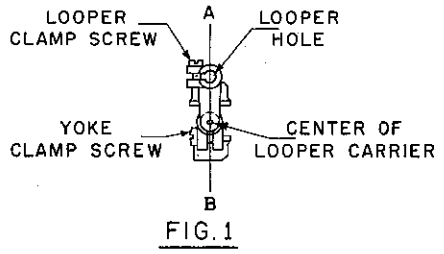
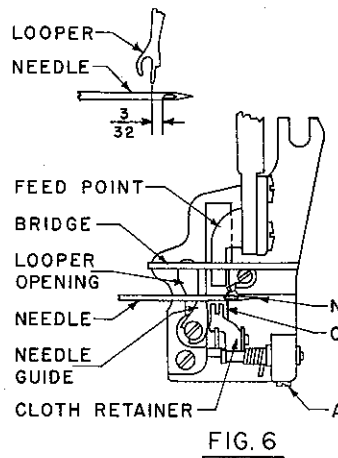
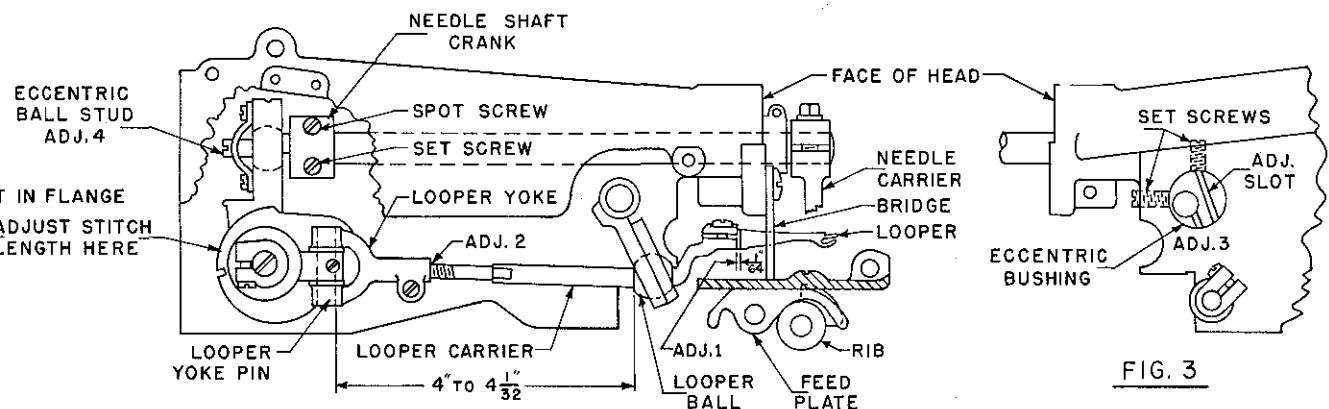
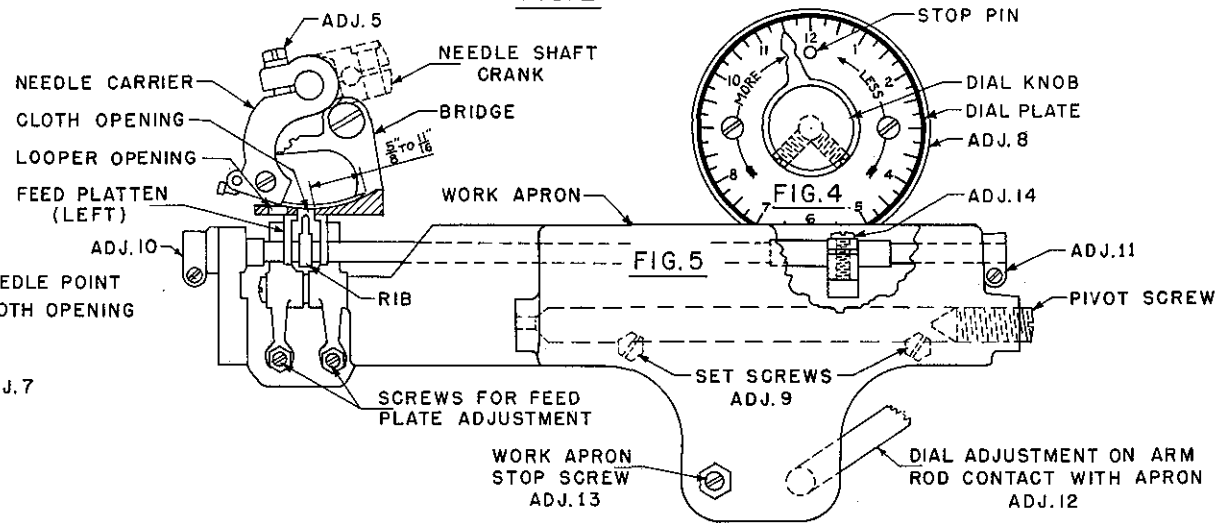

FIG. 1
FIG. 6
FIG. 2
FIG. 5
31. Continue to rotate hand wheel until the needle is at the end of needle stroke on the right hand side, see figure 5; at this position the point of the needle must be from $\frac{5}{8}$ " to $\frac{11}{16}$ " from the right hand side of the cloth opening on the presser foot. This setting is made by loosening the clamp screw holding the needle ball in the needle shaft crank, and turning the eccentric ball until the point of the needle is set correctly. See figures 2 and 5, adjustment 4 and 5.
32. The needle must be in contact with the needle guide when the needle point is from $\frac{1}{64}$ " to $\frac{1}{32}$ " from the left hand side of the cloth opening in the presser foot, Figure 6.
33. Adjust work apron so that left hand feed platten is flush with left hand side of cloth opening in presser foot. The adjustment is made by loosening two hexagon set screws in up right arm of the machine base, under the work apron holding the work apron shaft; slide the apron in correct position, and tighten the two set screws, Adjustment 9, Figure 5.
34. Set needle over highest part of rib, and adjust work apron to raise needle from the needle guide $1/64''$. The adjustment is made with the work apron stop screw. Adjustment 13, Figure 5. When set tighten lock nut.
38. Set feed platten, figure 5, so that they will depress $1/32''$ when in contact with the bottom of presser foot, after adjustment of foot and apron has been made. The setting is made by adjusting the feed platten carrier adjusting screws, and tighten lock nuts.
39. To set depth of feed, figure 6, adjustment 5, first turn hand wheel until needle point when approaching from the left is flush with left hand side of cloth opening in presser foot. Loosen the two feed clamp screws, and set feed so that a $.003''$ shim or newspaper will just be clamped between the top of feed plate, and the bottom of the presser foot. The feed points must be parallel with bottom of foot, tighten the feed clamp screws, and check clearance between feed and looper at all positions.
44. The Rib must be set to be $3/32''$ from the right hand side of the cloth opening in the presser foot. The adjustment is made by loosening the clamp screws of the Collars on each end of the rib shaft, see adjustment 10 and 11, figure 5. Set the rib in center of the cloth opening and tighten clamp screws. There must be no end play in the rib shaft.
46; Rotate hand wheel in clockwise direction until rib is at extreme end of its stroke with nose of rib under the needle. Loosen clamp screw in crank, adjustment 14, figure 5, and set rib by hand so that point of needle is $3/32''$ back from nose of rib, and tighten clamp screw.
48. The looper carrier and looper yoke are set before assembling these parts into the machine. Now, the looper ball is positively located on the shaft of the looper carrier by a spot screw. The looper carrier is assembled to the looper yoke, so that the distance from the edge of the looper yoke pin nearest the looper ball, to the side of the looper ball nearest the looper yoke will be 4 to $4-1/32$ (See Adjusting Chart, Figure 1, Adjustment 2.) The looper hole must be in line with center of looper carrier as shown in Figure 1.
49. The looper is mounted in the looper carrier assembly; allow $1/64''$ space between looper shoulder and end of looper carrier. (See Figure 2, Adjustment 1.) The Correct assembling of this unit must be understood in case for any reason it is necessary to remove or replace this assembly.
55. Before setting the looper, the looper carrier assembly must be in accordance with instructions for Figure 1, and Figure 2, and the needle setting must be as described in adjustments 4 and 5, Figures 2 and 5.
63. Loosen the looper yoke clamp screw, see Adjustment 2, Figure 2, and roll the looper until the long prong of the looper just brushes the scarf of the needle.
64. Check to see that point of the long prong of the looper just brushes the scarf of the needle, and is $3/32''$ from the inner end of the needle eye. See Figure 5.
65. Continue to rotate hand wheel in clockwise direction, until the short prong of the looper is at nearest point when passing chaining finger, not exceeding $1/32''$ - See Figure 6. If the short prong does not clear the chaining finger, or if the clearance is greater than $1/32''$, then the previous adjustments have not been correctly made, and these should be re-made.
71. Continue to rotate the hand wheel in a clockwise direction until the point of the long prong of the looper is over the center line of the needle. Check to see that the point of the long prong of the looper is $1/16''$ to $3/32''$ from the inner end of eye of the needle, and that the point of the long prong just brushes the scarf of the needle. In case the above conditions do not exist, the eye must be corrected -- this is done as described in the 56 to 65 paragraphs inclusive under the heading "ADJUSTING AND SETTING THE LOOPER". Be sure to roll the looper - Adjustment 2, Figure 2. Do not turn the looper eccentric bushing.
72. The machine, as far as the looper and needle are concerned is now ready to sew. Different materials or different threads may cause a slightly variation from the above adjustments, however, these adjustments will give the best results when padding or hemming the more heavy materials. When hemming silks and cotton, however, it may be advisable to set the point of the needle $1/16''$ - Figure 6, instead of $3/32''$, without changing the looper position by re-adjusting the needle ball stud, Adjustment 4, Figure 2.
73. The cloth retainer located in the cloth opening of the presser foot must at all times be adjusted as close to the needles as possible, and set relative to the ridge forming disc to firmly hold the work onto the disc while the needle is penetrating the material. If the work is carried along with the needle, no loop will form, resulting in missed stitches. See Figure 6, Adjustment 7. To adjust the retainer loosen set screw in foot and turn the cloth retainer eccentric bushing and turn bushing for setting retainer to the needle, and slide to the right or left for setting retainer to the rib, and tighten set screw in the presser foot.